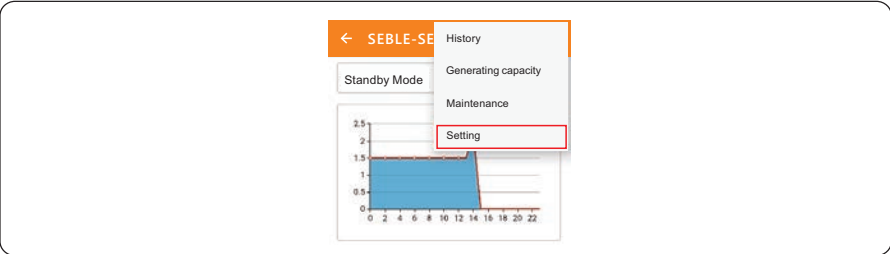

Figure 5.17 APP homepage setting
Step 2 Click the Extension key, and select Setting in the prompt manual, as shown in Figure 5.17.